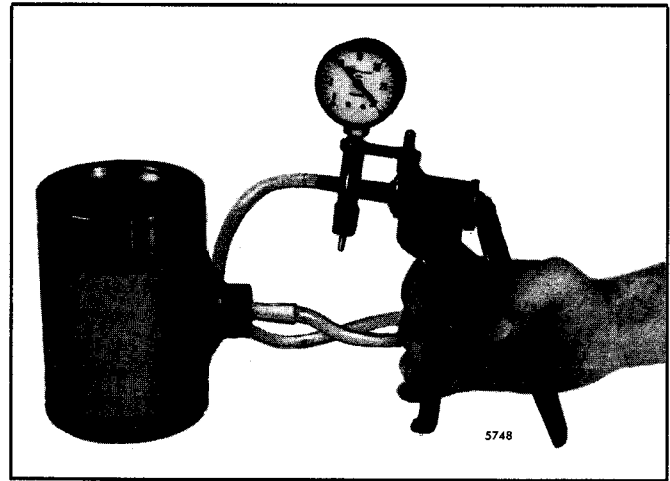

Fig. 9 - Checking Piston Pin Retainer for Proper Sealing using Tool J 23987-01
6. One important function of the piston pin retainer is to prevent the oil, which cools the underside of the piston and lubricates the piston pin bushings, from reaching the cylinder walls. Check each retainer for proper sealing with leak detector J 23987-01 (Fig. 9). Place the suction cup over the retainer and hand operate the lever to pull a